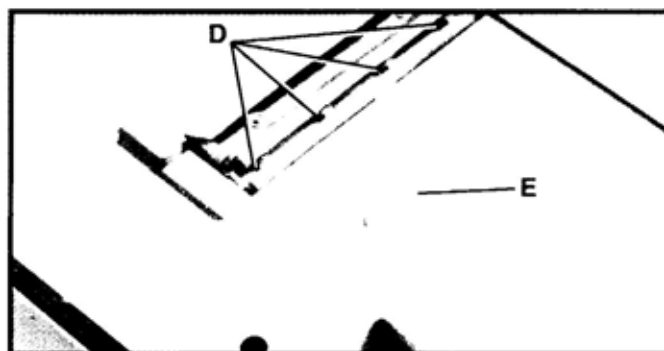
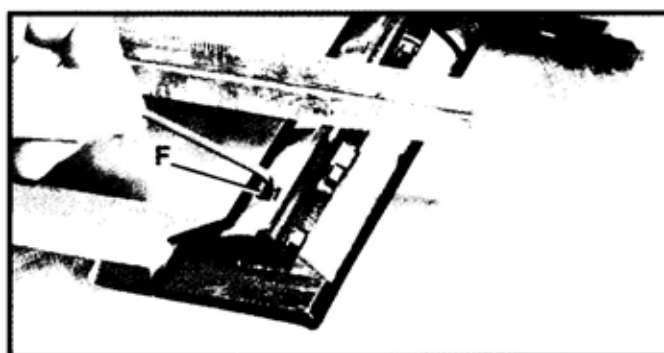

Fig. 42
Fig. 43
6. If the knife is too high or too low at either end, slightly turn five screws, four of which are shown at (D) Fig. 42, in the knife locking bar clockwise to loosen, using wrench (E) supplied. Then adjust the height of the knife by turning the knife raising screws (F) Fig. 43, counterclockwise to lower or clockwise to raise the knife. NOTE: If the knife must be lowered, it will be necessary to carefully push down on the knife after screws (F) have been turned. **WARNING: BE EXTREMELY CAREFUL THAT YOUR HANDS DO NOT COME IN CONTACT WITH THE KNIVES AS THE CUTTING EDGES ARE VERY SHARP. IMPORTANT:** Tighten knife locking screws (D) after adjustments have been made.